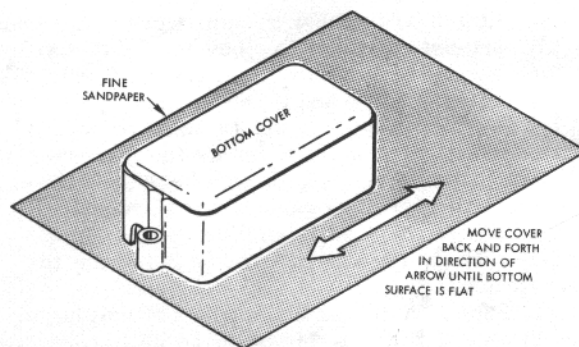

Figure 9. Sanding Bottom Cover
- 82. Slip cover into position and see if gap appears between bottom and top sections. If so, remove cover and sand bottom surface until flat, as shown in figure 9.